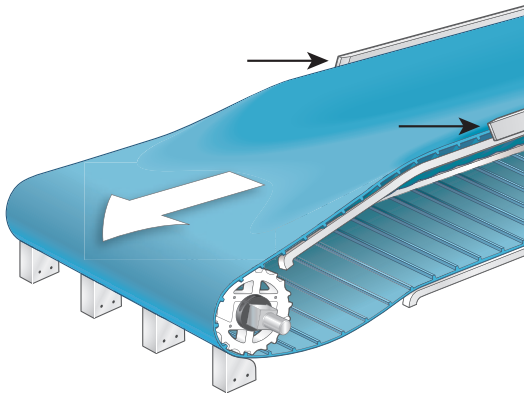

Figure 39
- Use UHMW-PE containment rails or blocks for lateral belt containment (Figure 39). See “*Belt Containment*” on page 45.